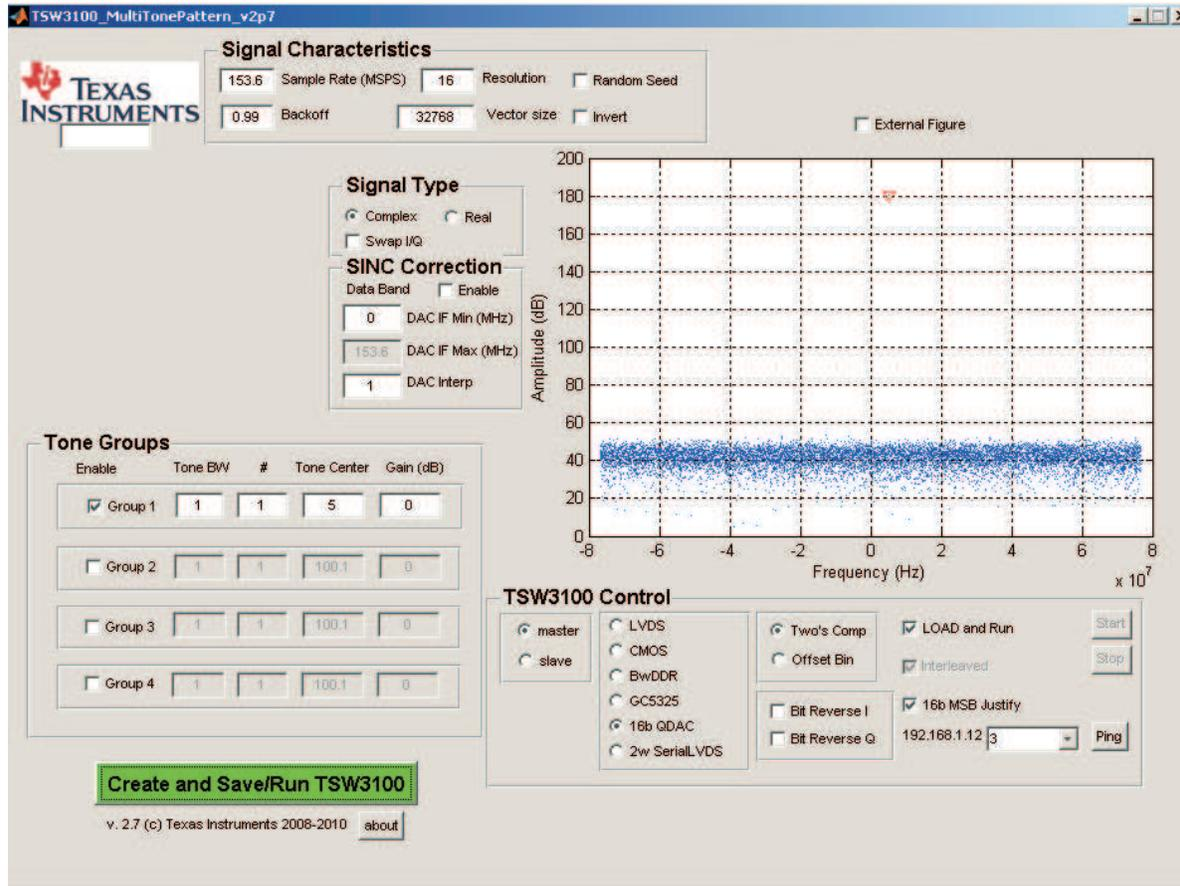

Figure 12. TSW3100GUI After Waveform Created
- Click on the green button *Create and Save/Run TSW3100*, when the TSW3100 is finished. The TSW3100 appears as shown in Figure 12.